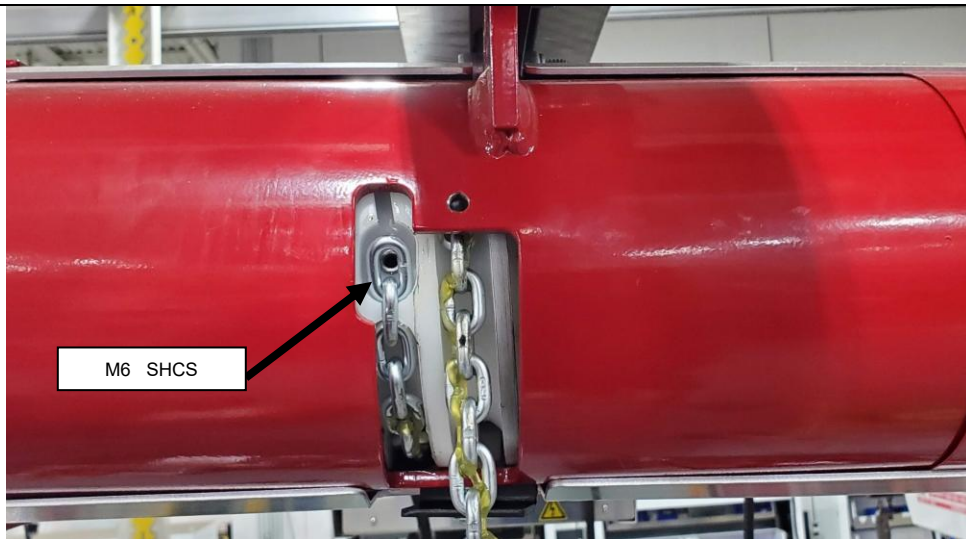

Figure 4-27
- Step 10. Once the second link is fully seated in the spool notch, re-install the M6 screw and washer through the first link into the threaded hole in the spool. (See Figure 4-27)